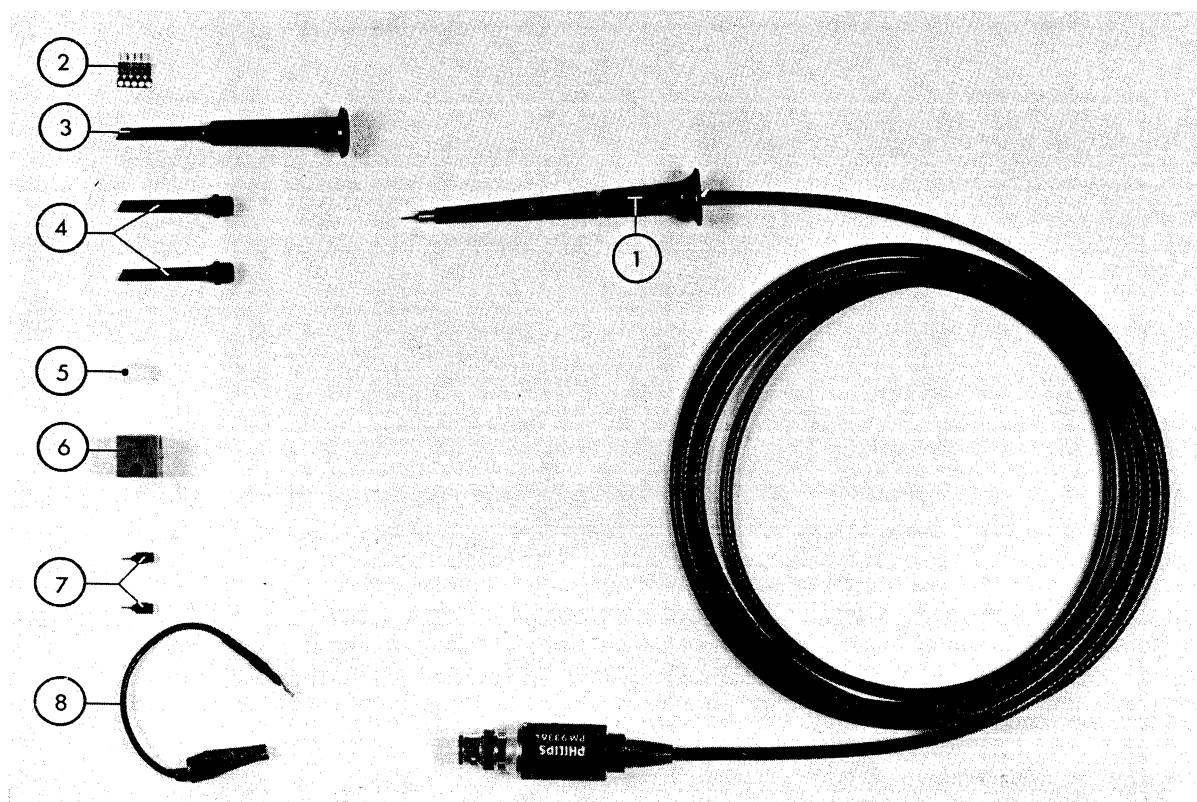

Fig. 3.26. Attenuator probe set PM 9336 (PM 9336L)
1 probe assembly	Fig. 3.26. item 1
5 soldering terminals	Fig. 3.26. item 2
1 test hook	Fig. 3.26. item 3
2 spare test hook sleeves	Fig. 3.26. item 4
1 protective cap	Fig. 3.26. item 5
1 probe holder	Fig. 3.26. item 6
2 probe tips	Fig. 3.26. item 7
1 earthing cord	Fig. 3.26. item 8
3.5.8. MULTI-PURPOSE CAMERA PM 9380 (Fig. 3.26)